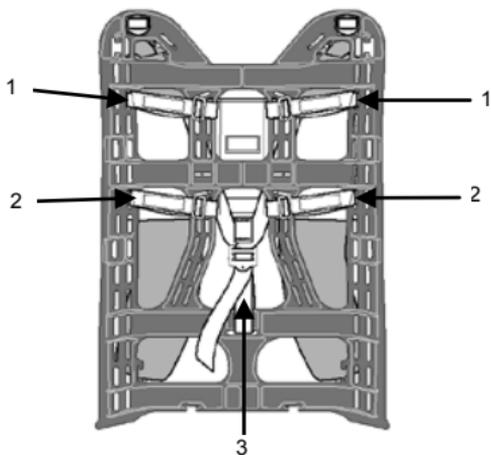

Figure 3. Adjusting Straps on Large Pack Frame.
1. Secure four horizontal straps (Figure 3, Items 1 and 2) in appropriate location for individual torso length.
3. Taller individuals, approximately 6 foot 2 inches and above, may move shoulder suspension up and secure to fit their longer torso by adjusting horizontal straps (Figure 3, Items 1 and 2).
- Once the four 1-inch webbing straps are secured around the frame, hold the shoulder straps in place by securing the 1-inch vertical webbing strap (Figure 3, Item 3).